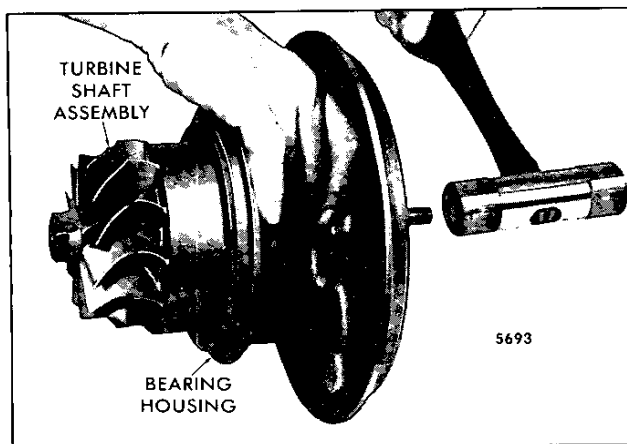

Fig. 9 – Tapping Turbine Shaft Assembly from Bearing Housing
10. Tap the turbine shaft assembly gently with a plastic faced mallet to release it from the bearing housing (Fig. 9).